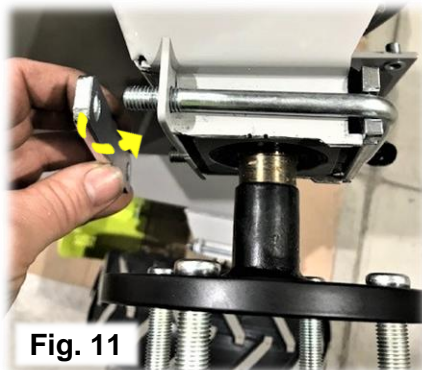

Fig. 11
11) Refit the retaining plates and bolts. Ref. Fig. 11